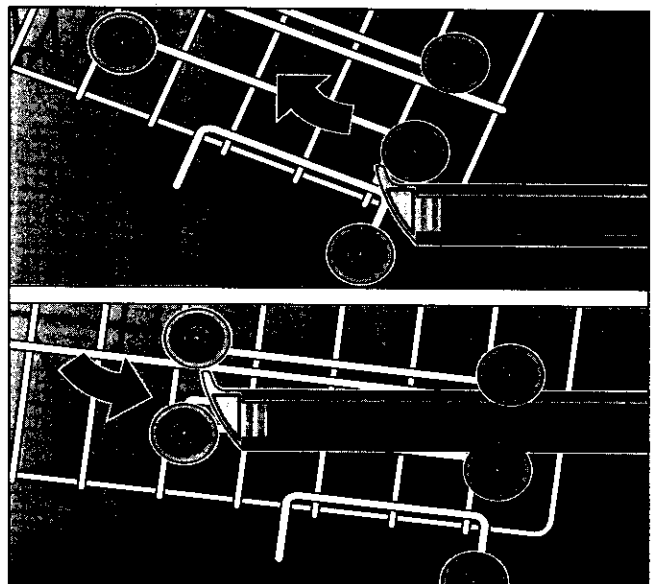

Figure 6.
The upper rack height of the Bosch dishwashers is adjustable. There are two positions, see figure 6:
- a. First empty upper rack and pull rack partially out to point where rack can be lifted upward as shown in upper illustration of Figure 6.